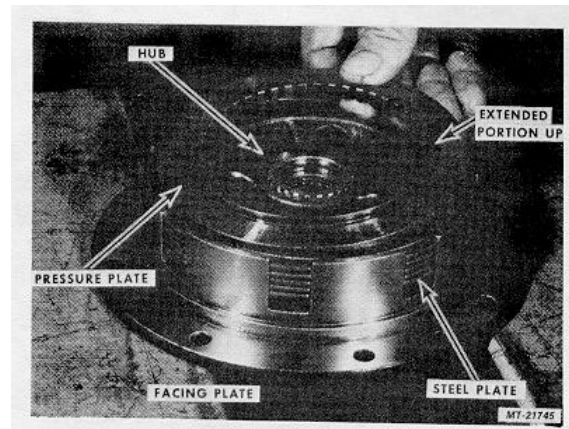

Fig. 53
16. Place Pressure Plate on top of Facing Plate with the extended portion up, Fig. 53.